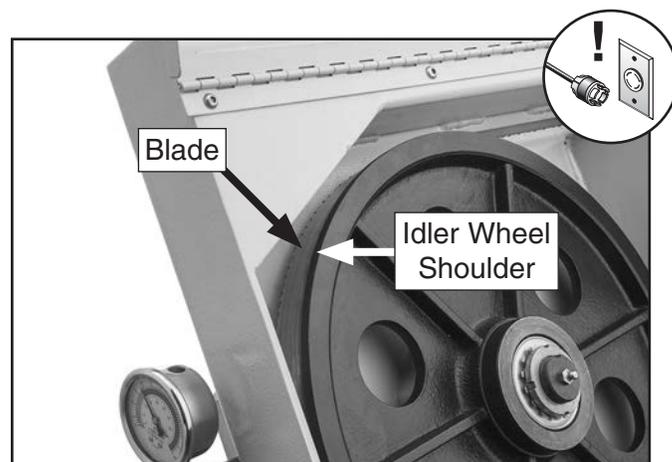

Figure 78. Blade tracking properly against idler wheel shoulder.
- If blade lightly touches shoulder of idler wheel without rubbing (see **Figure 78**), blade *is* tracking properly and no adjustments are needed.